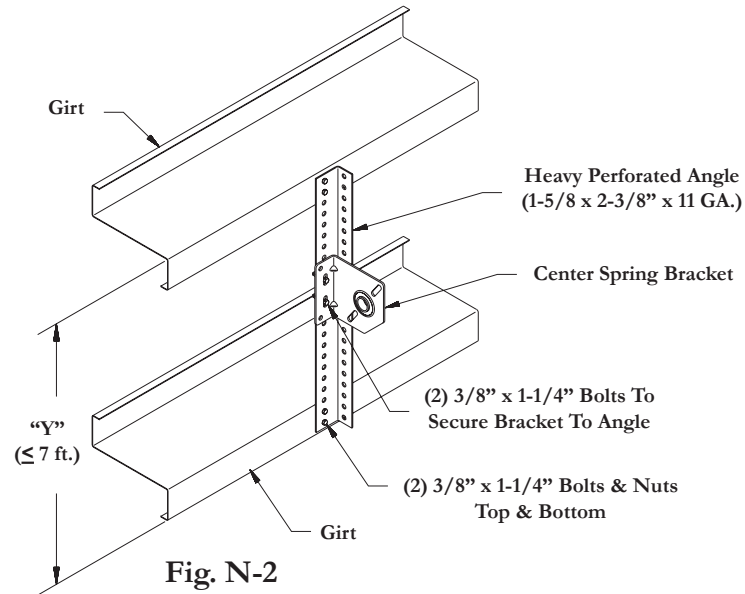

Fig. N-2
Maximum Door Size 9' x 9' (Maximum Door Weight 210 lb.): Cut perforated angle (1-5/8 x 2-3/8" x 11 GA.) to Dim "Y". Thru-bolt top and bottom of angle to each girt using (4) 3/8" x 1-1/4" bolts and nuts. Thru-bolt center bracket to perforated angle using (2) 3/8 x 1-1/4" bolts and nuts (See Fig. N-2).